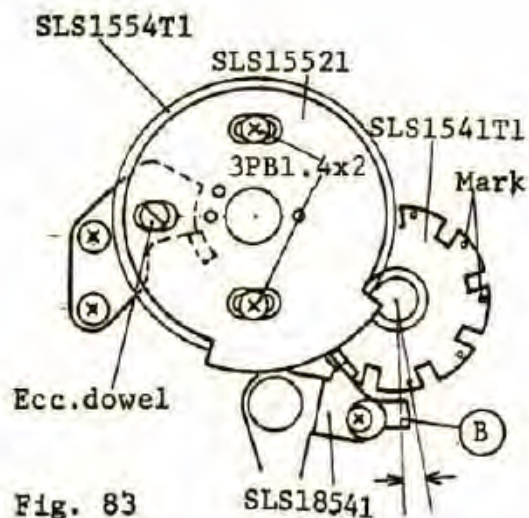

Fig. 83
- 1) When the exposure counter indicates to "S" (start), engage SLS1541T1 Dividing device with the SLS1554T1 Film counter gear as end (B) of the SLS15842 Stop lever should be determined as shown in Fig.83.
- 2) Fine adjustment is made by turning the ecc.dowel in the SLS1554T1 Film counter gear after loosening two screws 3PB1.4x2BN1 as shown in Fig.83.